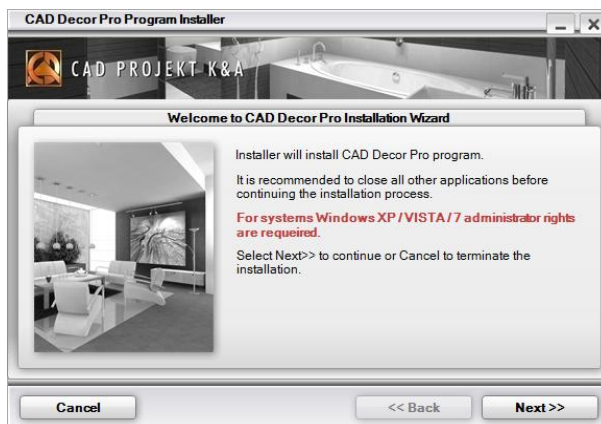

Fig. 4 – CAD Decor PRO installation wizard
- a dialog box with information about the installation wizard will be displayed first (Fig. 4) - please read the information carefully,